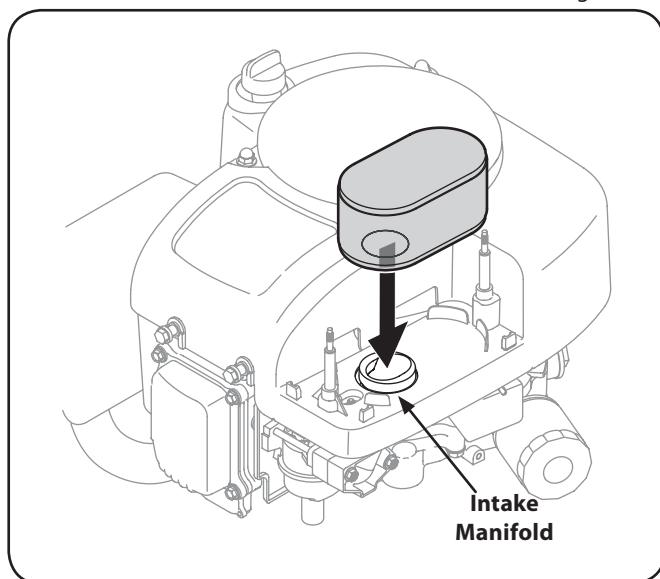

Figure 6-7
5. Attach the new air filter with foam element, aligning the hole in the air filter with the intake manifold. See Fig. 6-7.